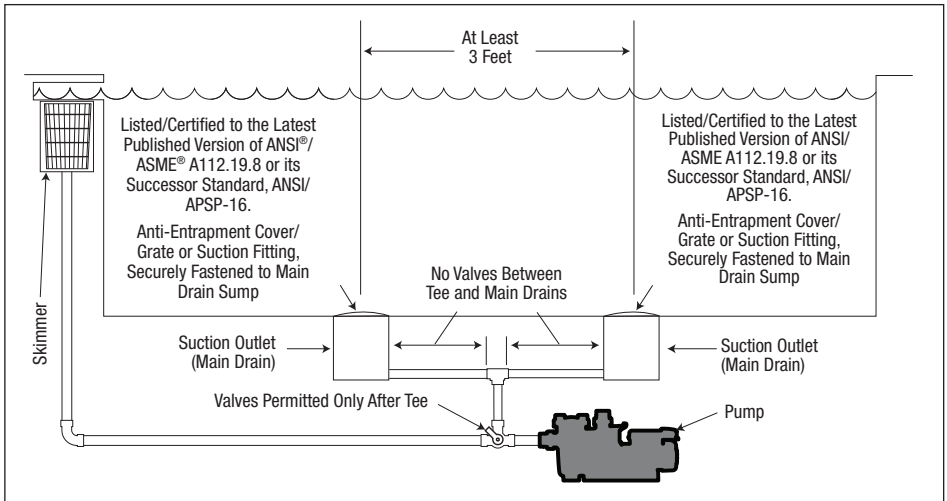

Figure 4. Number of Suction Outlets Per Pump
**SUCTION HAZARD.** Can cause serious injury or death. Do not use this pump for wading pools, shallow pools or spas containing bottom drains, unless the pump is connected to at least two (2) functioning suction outlets and/or in accordance with the latest version of ANSI®/PHTA®/ICC-7 the standard for Suction Entrapment Avoidance in Swimming Pools, Wading Pools, Spas, Hot Tubs, and Catch Basins.
**Number of Suction Outlets Per Pump** - Provide at least two (2) hydraulically-balanced suction outlets, with covers, as suction outlets for each circulating pump suction line. The centers of the suction outlets (suction outlets) on any one (1) suction line must be at least three (3) feet apart, center to center. See *Figure 4*.
The system **must** be built to include at least two (2) suction outlets (drains) connected to the pump whenever the pump is running. However, if two (2) suction outlets run into a single suction line, the single suction line may be equipped with a valve that will shut off both suction outlets from the pump. The system shall be constructed such that it shall not allow for separate or independent shutoff or isolation of each drain. See *Figure 4*.